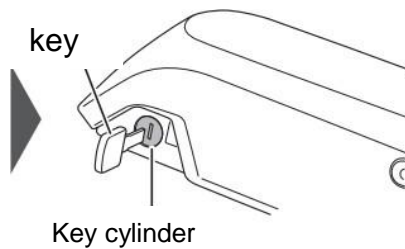

Figure 5.5
1. Insert the key. To TURN OFF the power, press the power button, and then insert the key into the key cylinder in the battery compartment. See Figure 5.5.